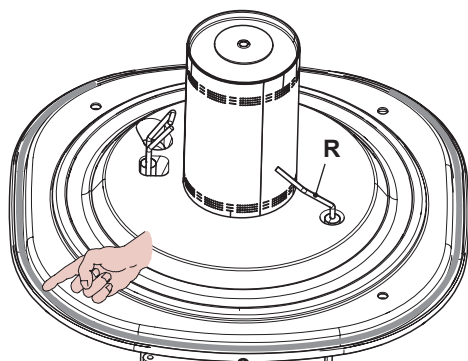

Fig. 9.13
- The detection electrode R in Fig. 9.13 also functions as a sensor for the correct drainage of the condensate.
**Caution:** After any periodical servicing or disturbance the combustion chamber silicon seal Fig. 9.13 must be fully inspected and replaced at the discretion of the service engineer.